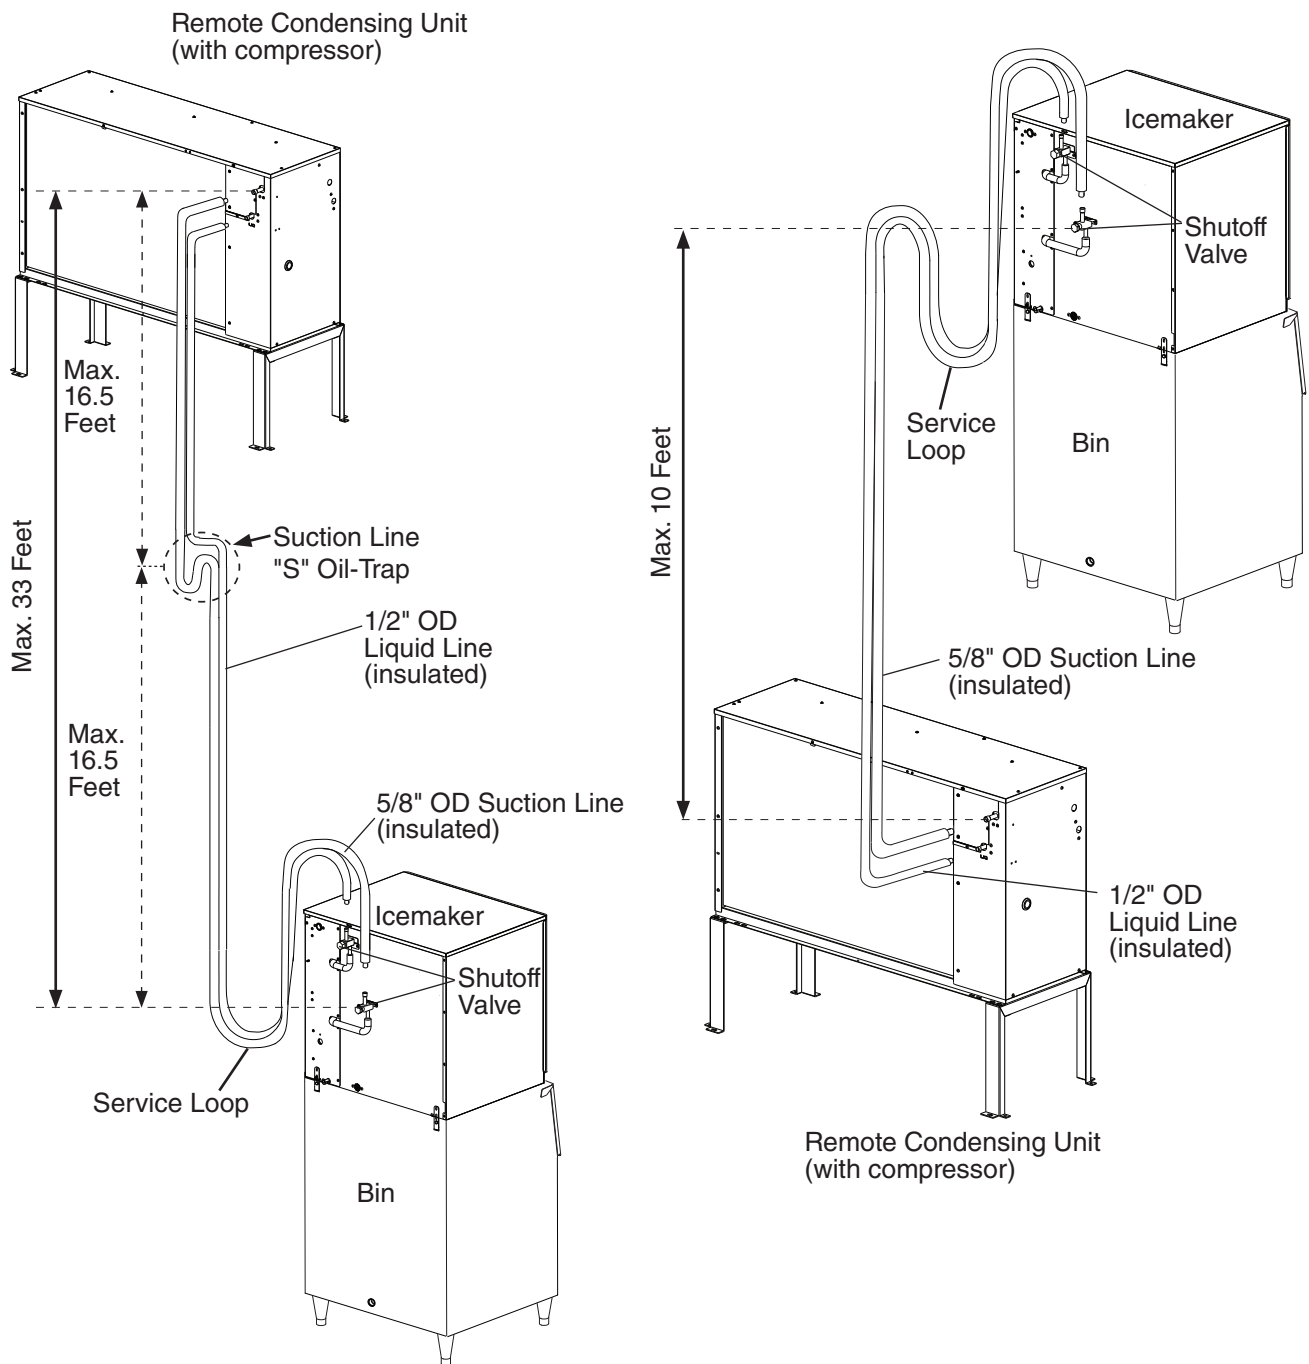

Fig. 14
- The maximum vertical distance between the remote condensing unit and icemaker is 33 feet above or 10 feet below the icemaker. These distances are measured fitting to fitting. See Fig. 14. **NOTICE! Do not exceed maximum vertical distance.**
- 1) Route the factory line set or appropriate size copper tubing. When field fabricating, insulate the copper tubes separately. Leave a service loop behind the icemaker to allow the icemaker to be pulled out for service. See Fig. 14. Note: The service loop is not considered an oil trap.